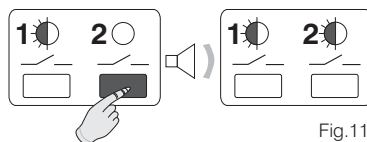

Fig. 11
- Press and hold the **key 2** button until you hear one beep, then release it. Both **LEDs** flash. **Channel 2** is now ready to be paired with the "Master" chronothermostat (fig. 11).